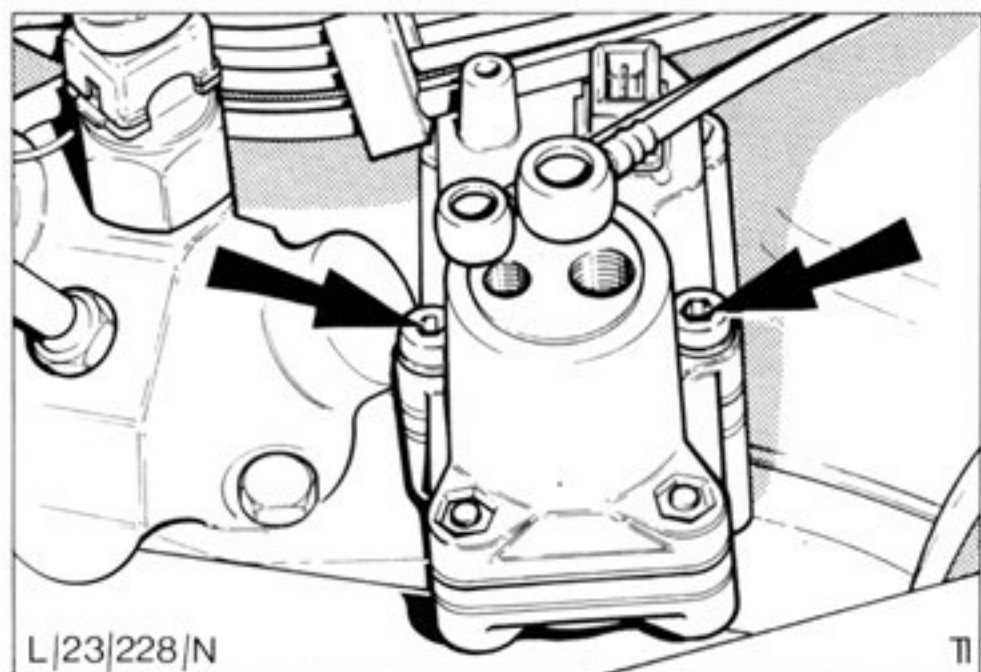

Fig.85. Warm-up regulator securing bolts.
5. Remove two allen screws and detach regulator, Fig.85.